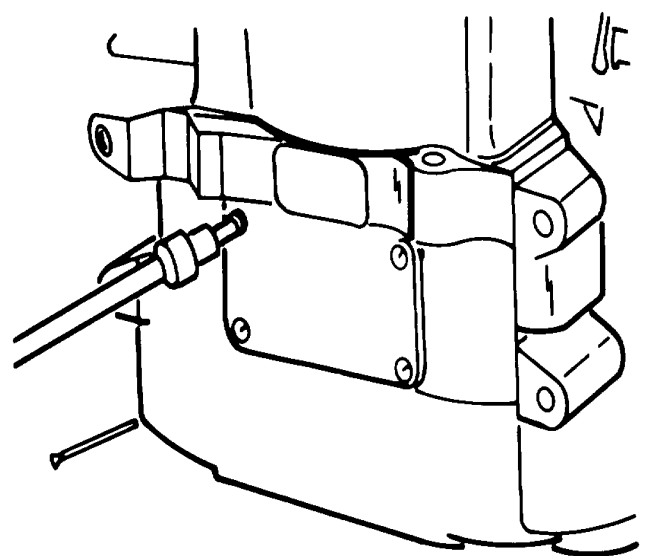

Figure A-19. Connecting Rod
o. Connecting Rod. Turn the engine onto its flywheel side. Remove the crankcase inspection cover by removing the six allen screws with a 4mm allen wrench. If these screws are very tight, tapping on them with a hammer and drift pin or flat-faced punch may help loosen them. (Figure A-19).